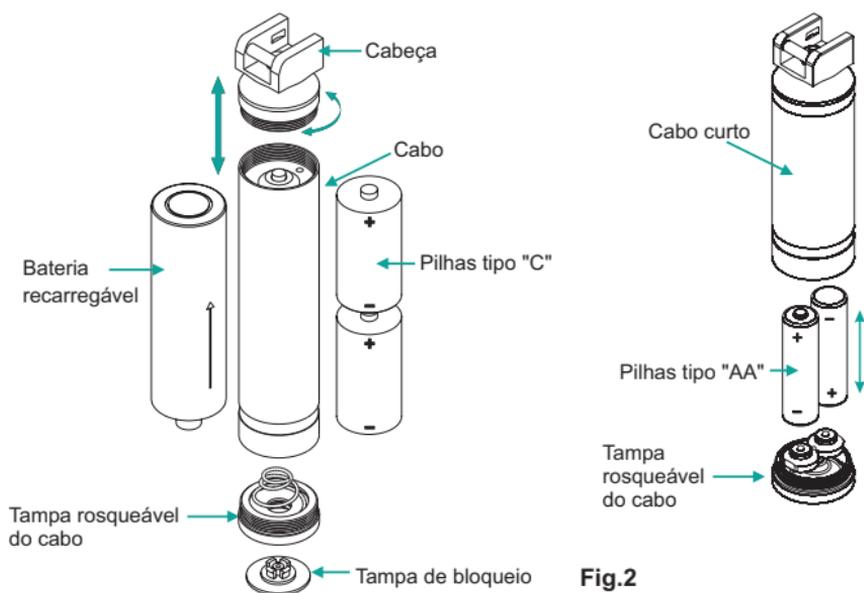

Fig.2
1. Desrosqueie a tampa inferior do cabo e remova as pilhas (Fig.2).